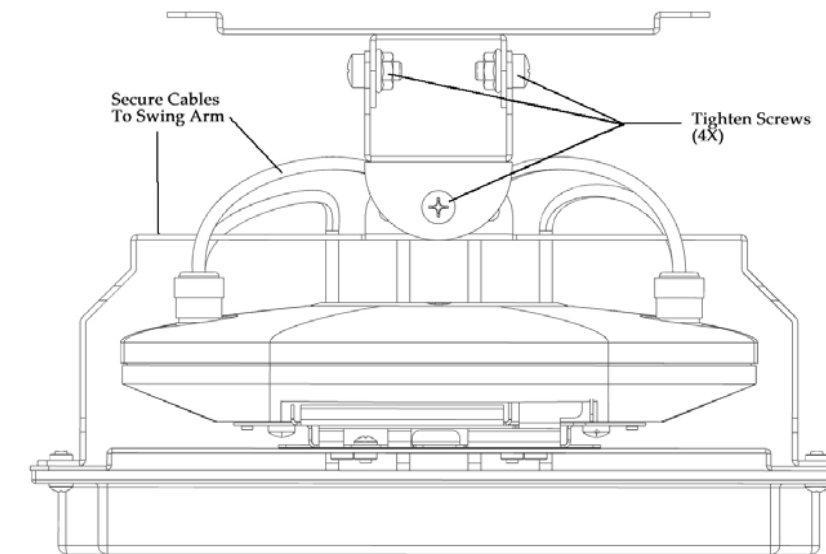

Figure 6
Step 6 – Use the provided wire ties to secure antenna cables to the swing arm. Tighten the screws snugly in the four locations shown in Figure 6. This will allow the mount to swivel with out it freely moving around.
Step 9 – Articulate the antenna mount to the desired position and securely tighten down the screws in Figure 6 to keep the mount in the set position. The mount can be swiveled on two axes to provide the desired down-tilt and azimuth coverage of the directive antenna.